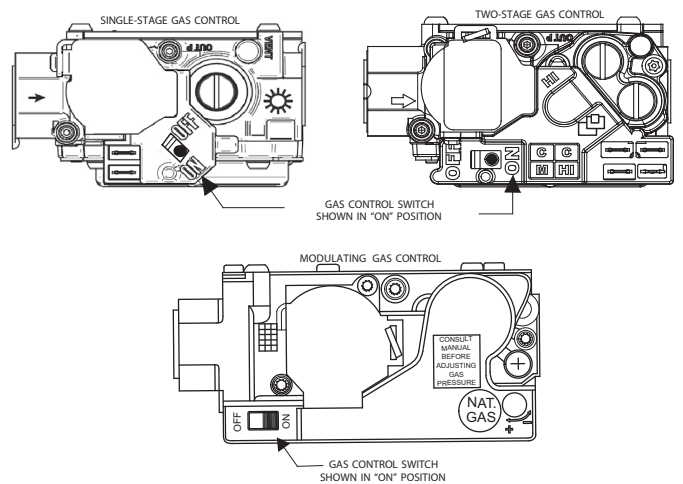

Fig. 12 – Control Switch to ON
- After waiting five minutes, turn control switch on the gas control to the ON position. Turn the control switch to ON (see Fig. 12).